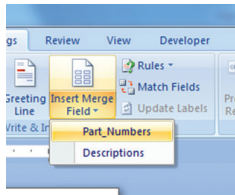

FIGURE 11 Press the bottom half of the Insert Merge Field button to display column header names.
- I. Now click on the **bottom half** of the **Insert Merge Field** button on your Word toolbar (Fig. 11). The names of your column headers will be displayed.